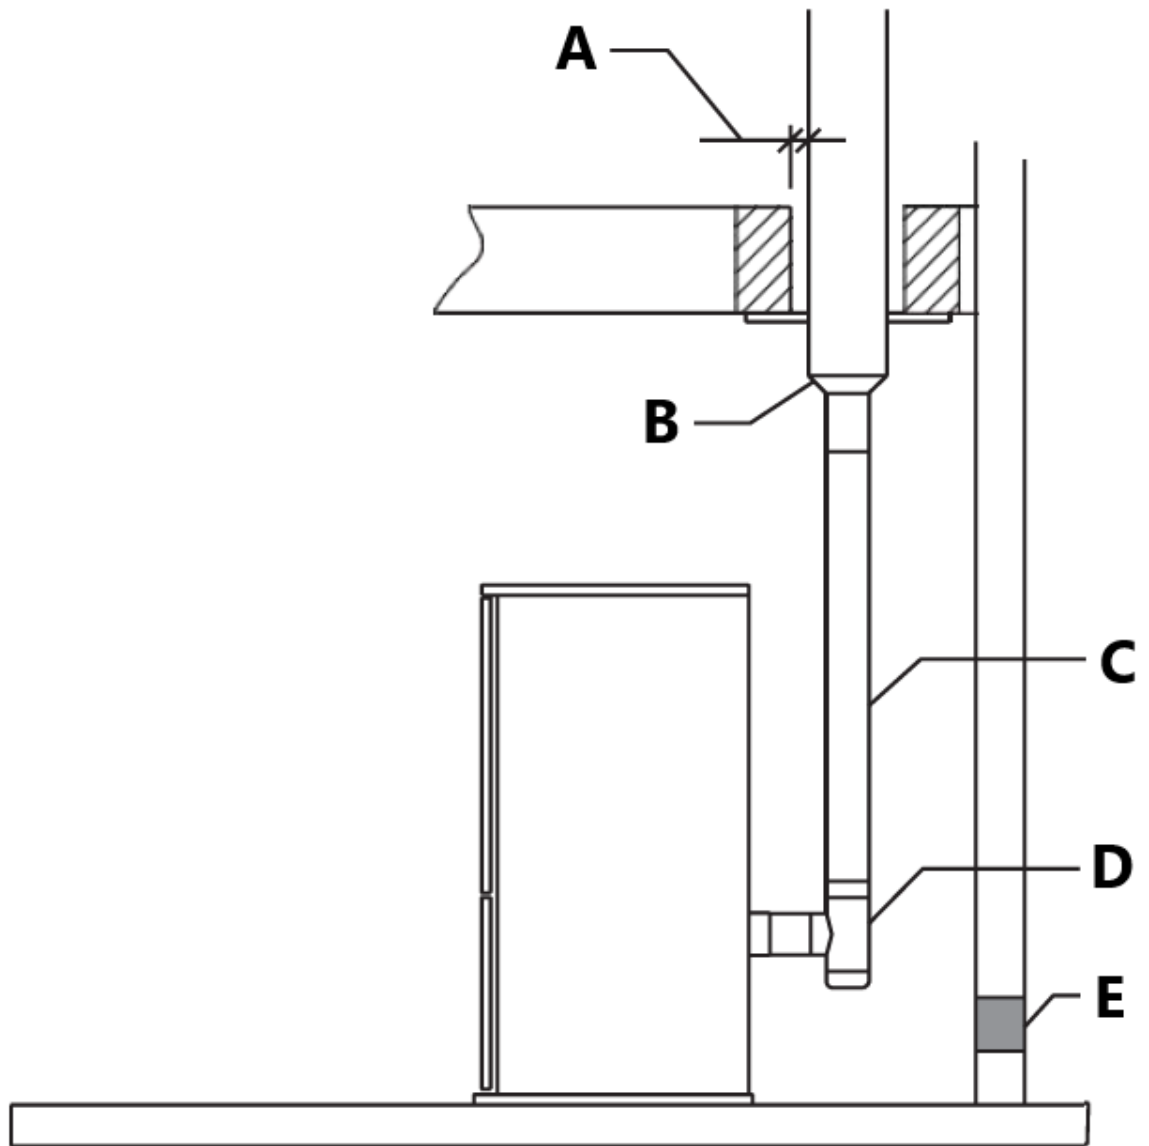

Fig. 14
- When venting into a Class A steel chimney, (Fig.14), use an appropriate PL Vent adapter.